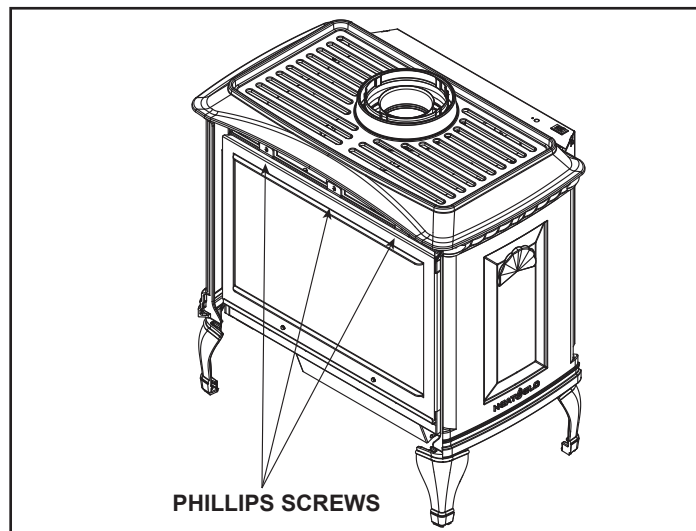

Figure 4.2 Remove Glass Frame
- Remove the three Phillips head screws at the top of the glass frame. Remove glass from appliance. See Figure 4.2.